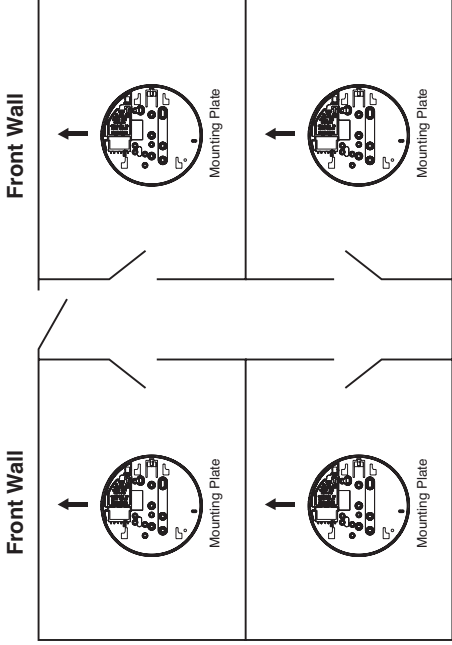

Fig.10
5. Carefully align the mounting plate and screw into place. If using RF interconnection, ensure that all mounting plates are facing the same orientation as shown in Figure 10 (see Interconnecting Alarms
The Alarm can also be RF interconnected to other RF Alarms and devices by installing an Ei3000MRF SmartLINK Module. See the User manual for the Ei3000MRF for further details on RF interconnection. For maximum RF signal strength, orientate all mounting plates in the same direction to ensure the antennas of the RF modules are all facing the same way as shown in figure 10.